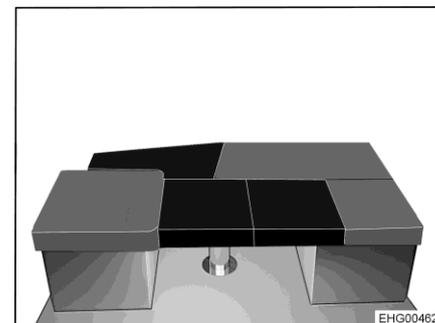

Fig. 179 After conversion
- Place 2 square additional cushions on the table (see Fig. 179).
- Place triangular additional cushion on the bed widening between lateral seat and L-shaped bench (see Fig. 179).